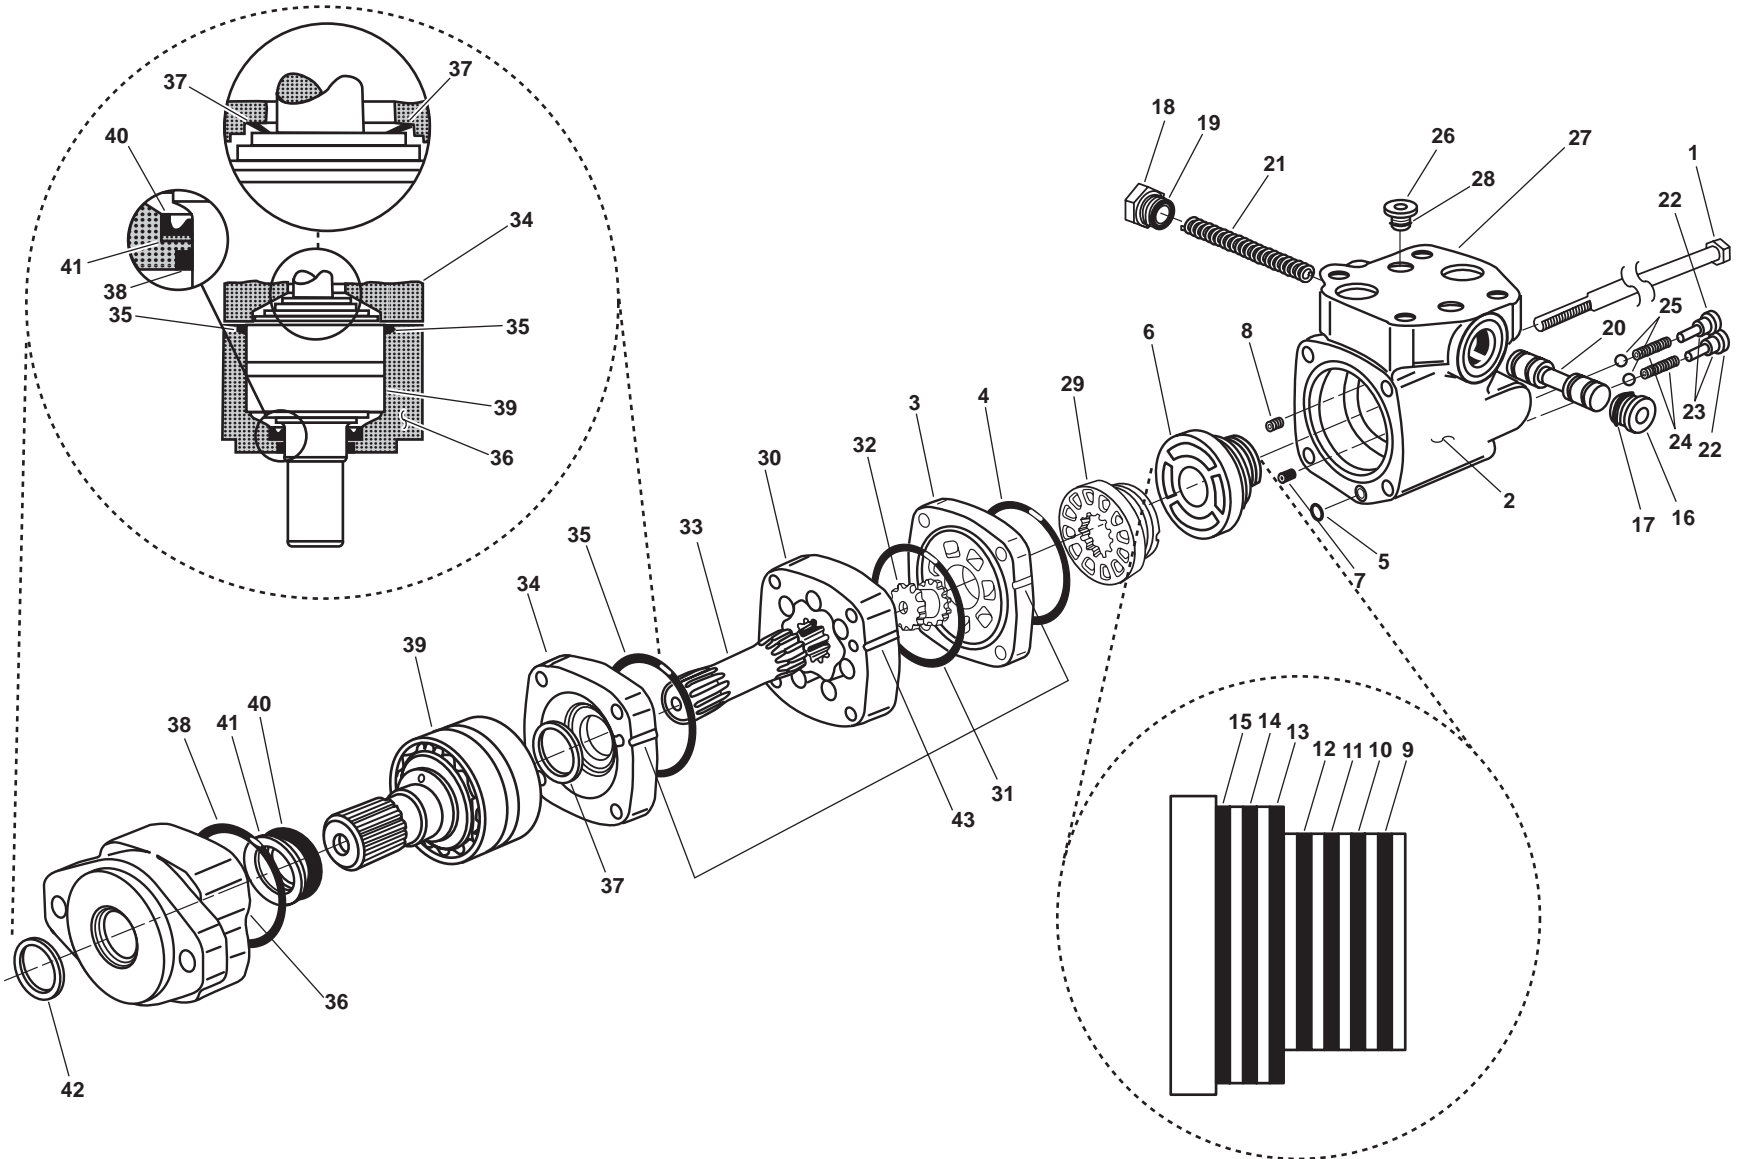

Figure 2. Anchor Windlass Hydraulic Motor
4. Remove the four bolts (figure 2, item 1) from the valve housing (figure 2, item 2).
5. Remove the valve housing (figure 2, item 2) from the valve plate (figure 2, item 3). Drain the hydraulic fluid into the suitable drain pan.
6. Remove the seal (figure 2, item 4) from the valve housing (figure 2, item 2). Discard the seal.
7. Remove the O-ring (figure 2, item 5) from the valve housing (figure 2, item 2). Discard the O-ring.
8. Remove the balance ring (figure 2, item 6) from the valve housing (figure 2, item 2) using a slide hammer.
9. Remove the two pins (figure 2, item 7) and the two springs (figure 2, item 8) from the valve housing (figure 2, item 2).
10. Remove the backup O-ring (figure 2, item 9) from the balance ring (figure 2, item 6). Discard the backup O-ring.
11. Remove the backup O-ring (figure 2, item 10) from the balance ring (figure 2, item 6). Discard the backup O-ring.
12. Remove the O-ring (figure 2, item 11) from the balance ring (figure 2, item 6). Discard the O-ring.
13. Remove the O-ring (figure 2, item 12) from the balance ring (figure 2, item 6). Discard the O-ring.
14. Remove the backup O-ring (figure 2, item 13) from the balance ring (figure 2, item 6). Discard the backup O-ring.
15. Remove the O-ring (figure 2, item 14) from the balance ring (figure 2, item 6). Discard the O-ring.
16. Remove the backup O-ring (figure 2, item 15) from the balance ring (figure 2, item 6). Discard the backup O-ring.
17. Slowly remove the control spool plug (figure 2, item 16) from the valve housing (figure 2, item 2).
18. Remove the O-ring (figure 2, item 17) from the control spool plug (figure 2, item 16). Discard the O-ring.
19. Remove the control spool plug (figure 2, item 18) from the valve housing (figure 2, item 2).
20. Remove the O-ring (figure 2, item 19) from the control spool plug (figure 2, item 18). Discard the O-ring.
21. Remove the control spool (figure 2, item 20) from the valve housing (figure 2, item 2).
22. Remove the two control spool springs (figure 2, item 21) from the valve housing (figure 2, item 2).
23. Remove the two check ball plugs (figure 2, item 22) from the valve housing (figure 2, item 2).
24. Remove the two O-rings (figure 2, item 23) from the two check ball plugs (figure 2, item 22). Discard the O-rings.
25. Remove the two check ball springs (figure 2, item 24) from the valve housing (figure 2, item 2).
26. Remove the two check balls (figure 2, item 25) from the valve housing (figure 2, item 2).
27. Remove the case drain plug (figure 2, item 26) from the port face (figure 2, item 27).
28. Remove the O-ring (figure 2, item 28) from the case drain plug (figure 2, item 26). Discard the O-ring.
29. Remove the valve (figure 2, item 29) from the valve plate (figure 2, item 3).
30. Remove the valve plate (figure 2, item 3) from the geroler (figure 2, item 30).
31. Remove the seal (figure 2, item 31) from the valve plate (figure 2, item 3). Discard the seal.
32. Remove the valve drive (figure 2, item 32) from the geroler (figure 2, item 30).
33. Remove the geroler (figure 2, item 30) from the drive (figure 2, item 33).